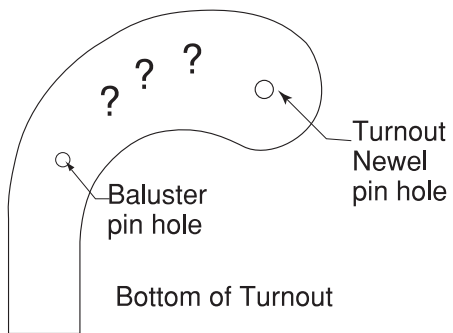

Fig. 5-18
4. Determine how far around the bottom of the turnout the last baluster will be to achieve the desired look. Please note Fig. 5-18 here.